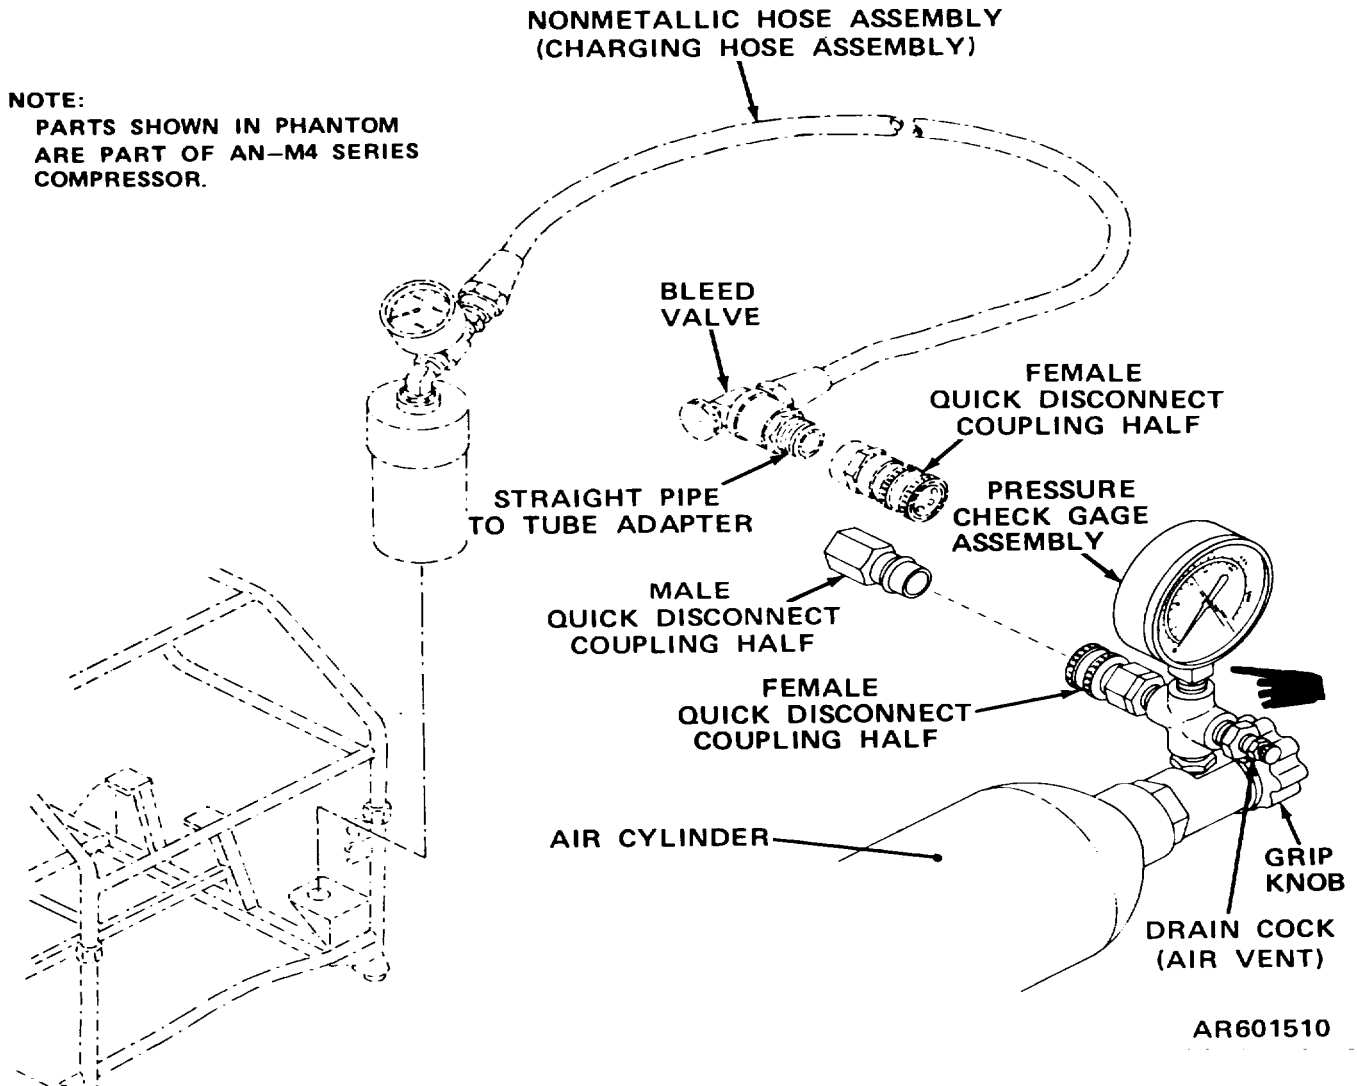

Figure 4-4. Connections for Charging Air Cylinders from AN-M4 Series Compressors.
(1) Remove the air cylinder from the frame and harness assembly (para 2-5).
(2) Connect the pressure check gage assembly (fig. 4-2) from the M254 service kit to the nipple assembly of the air cylinder (fig. 4-4).
(3) Remove the female quickdisconnect coupling half from the compressor nonmetallic hose assembly (charging hose assembly) (TM 3-4310-100-10).
(4) Remove the male quickdisconnect coupling half from the charging hose assembly of the M254 service kit (fig. 4-2) and screw it on the straight pipe to tube adapter of the compressor charging hose assembly (fig. 4-4).
(5) Connect the male quickdisconnect coupling half to the female quickdisconnect coupling half of the pressure gage assembly.
(6) Close the drain cock (air vent) on the pressure check gage assembly.
(1) Remove air cylinder from frame and harness assembly (para 2-5).
(2) Connect the pressure check gage assembly (fig. 4-4) onto the nipple assembly of the cylinder.
(3) Remove the charging chuck from the end of